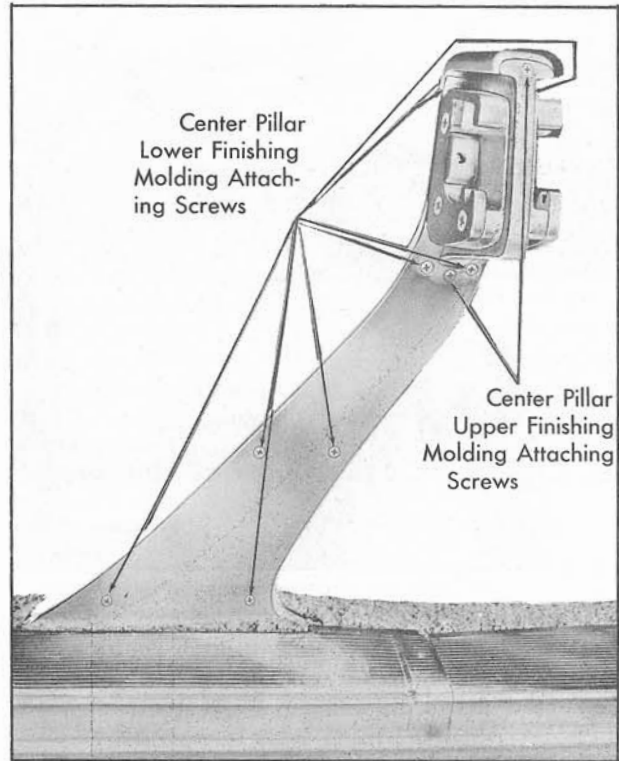

Fig. 17-43 Center Pillar Finishing Moldings
3. Remove lower finishing molding attaching screws, Fig. 17-43.
3. Detach center pillar lower finishing molding sufficiently to remove upper finishing molding lower attaching screw, Fig. 17-43.
(66) Center Pillar Finishing Cover Removal and Installation